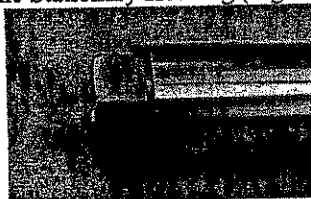

FIG 7. Fully Connected Position
- Step 6. Push the Breakaway Module into the Stationary Module until a definite click is felt and the wrench flats are in the groove on the Stationary Housing (Figure 7).